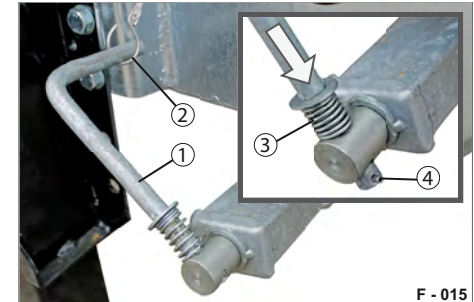
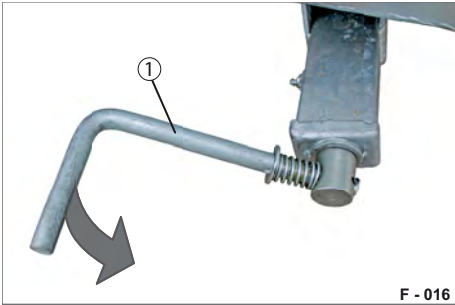

Fig. 14 Screw parking brake secured
Fig. 15 Releasing the screw parking brake
- Press the crank (Fig. 14/1) against the compression spring (Fig. 14/3).
- Turn the crank (Fig. 14/1) at the same time so that the pin (Fig. 14/4) engages.
- Fit the hook of the securing cable (Fig. 14/2) over the crank.
- Release the hook (Fig. 14/2) from the crank (Fig. 15/1).
- Rotate the crank (Fig. 15/1).
- Rotate the crank (Fig. 15/1) anticlockwise as far as it will go. The trailer is unbraked.